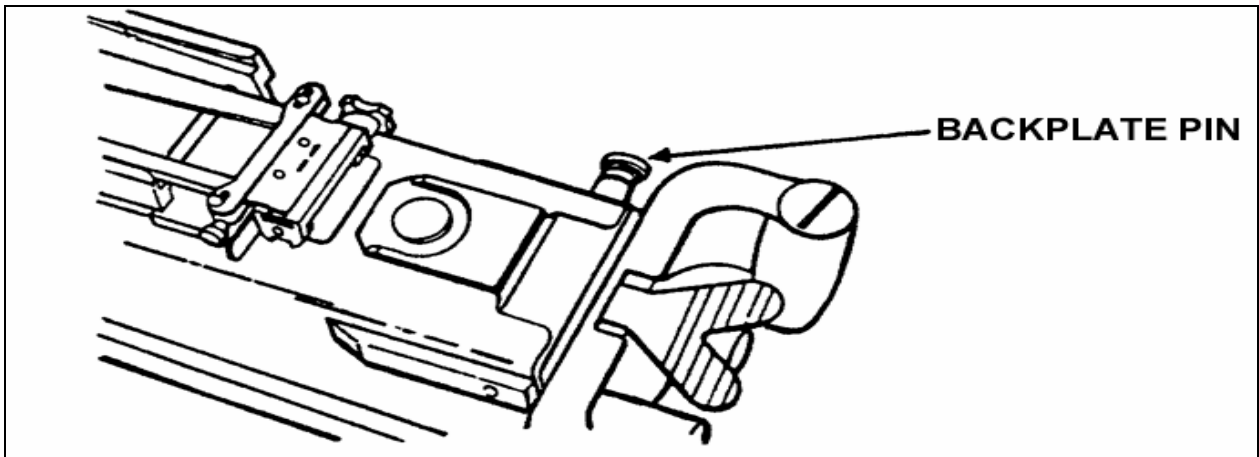

Figure 2-18. Backplate pin.
- (c) Pry outward on the pin lip and remove the pin with the fingers (Figure 2-18). If the pin cannot be removed with the fingers, hit the small end of the pin with the secondary drive lever until the pin comes loose.